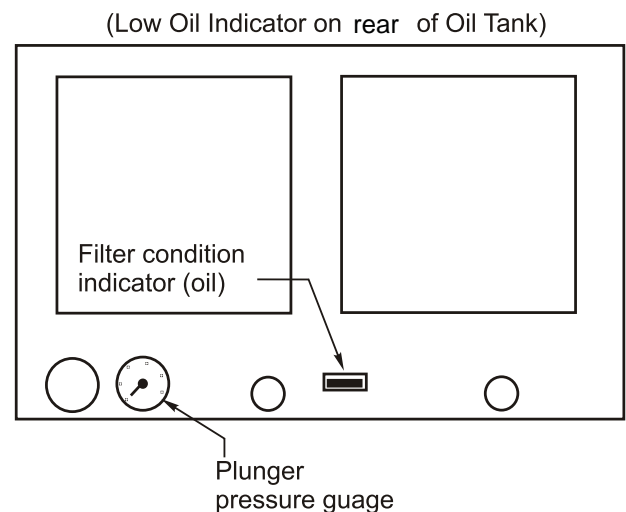

Figure 5-23 Front Panel
3. Read the plunger pressure gauge on the left side of the front gauge panel of the baler as illustrated in figure 5-23. It should read approximately 6,500 psi.